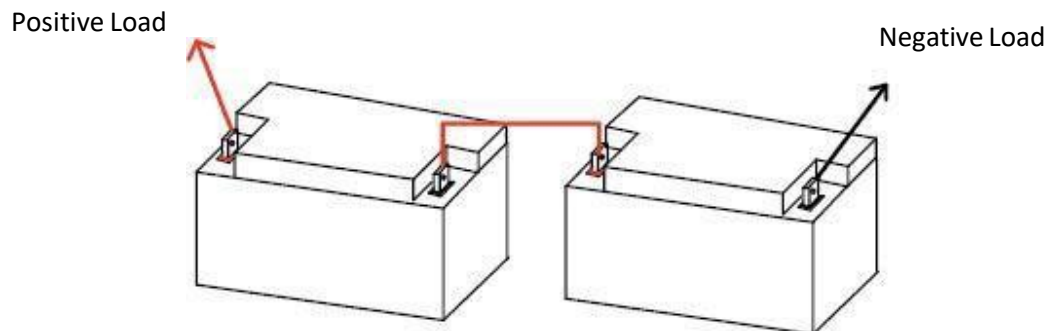

Figure 4: Two 10012|10012H Batteries Connected in Series to create a 24V 100Ah Battery Bank
When batteries are connected in series, current capacities remain the same, but the system voltage is additive. For example, two BB10012|BB10012H batteries connected in series form a 24V 100Ah bank (shown in Fig. 4) and should be charged using a bulk and absorption voltage of 28.8V, and a float voltage of 27.2V.
7. Repeat steps 3-6 for additional batteries, but **DO NOT** exceed 48V. An example of a correct series connection can be found below in Fig. 4.